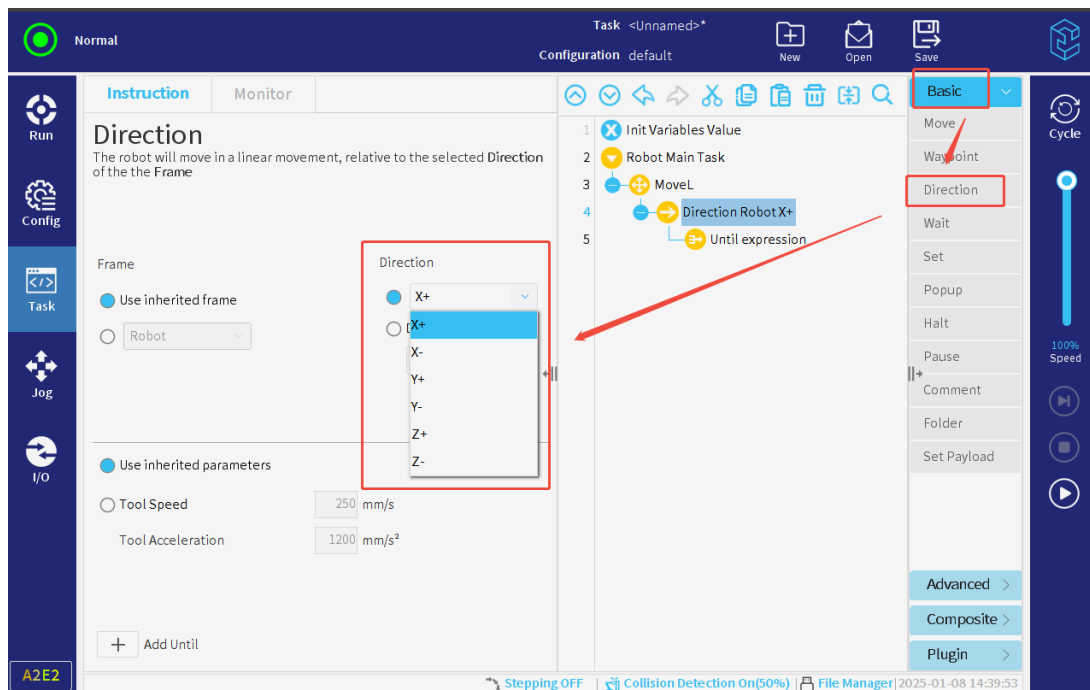

Figure 3-88 : Add directional movement
2. Under "Frame", define linear movement, as shown in **Figure 3-88**.